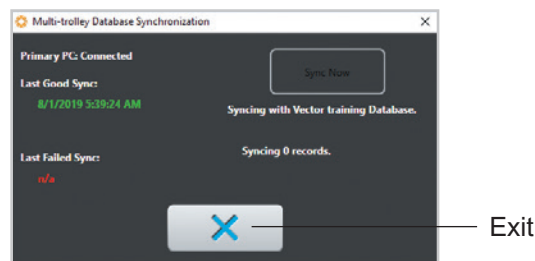

Figure 10-3: Multi-Trolley Database Synchronization Window (Syncing)
6. Go back to the first computer, and press the Sync Now button. Confirm that the window states "Syncing with primary database." See Figure 10-3.
8. Once the computers have finished the manual sync process, the screen will state "Ready". Press the exit (X) button to close the Multi-trolley Database Synchronization window.